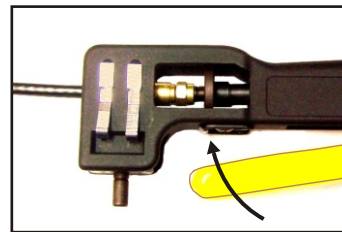

Figure 3
Step 2. (Fig.3) To compress the connector, close the tool handle completely, insuring the connector sleeve is fully compressed.